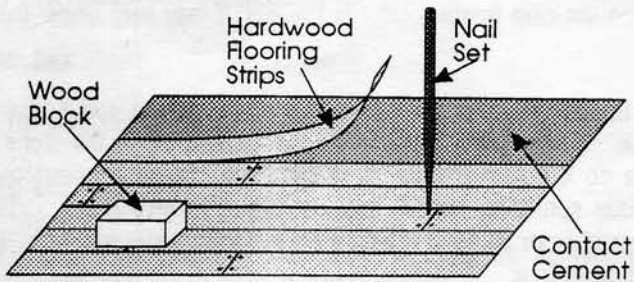

Figure 5
5. To achieve a pegged appearance, punch the ends of each strip with a 3/32" nail set or the flattened end of a nail. See Figure 5.